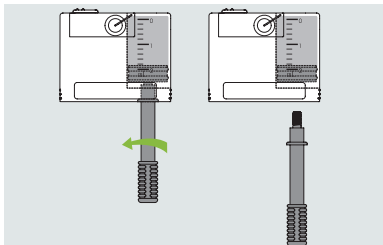

Figure 27
8. Remove the pullrod by unscrewing it counterclockwise (Figure 27).